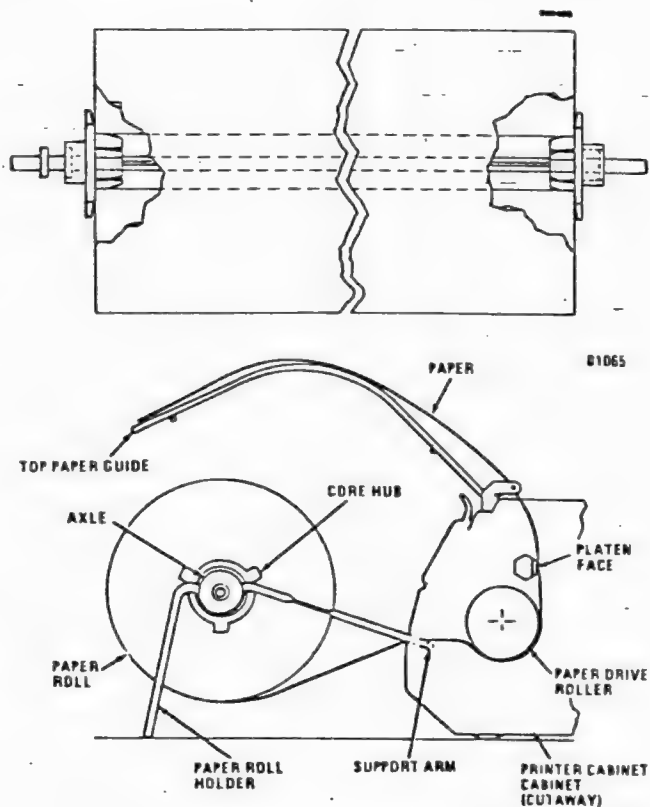

Figure 2-2 Roll Paper Holder Installation
2. Refer to Figure 2-2 and squeeze the roll paper holder support arms together slightly.